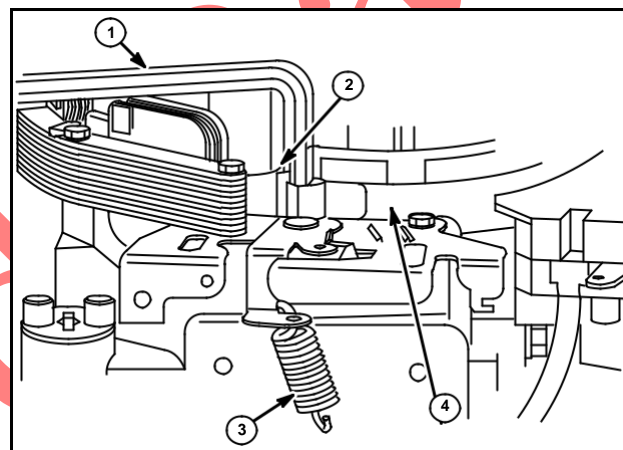

Fig. 120
3. On early style brake brackets, use tang bender tool #19229 (1) to bend control lever tang (2) to clear band brake loop, then release brake spring tension and remove band brake (4), Fig. 120.